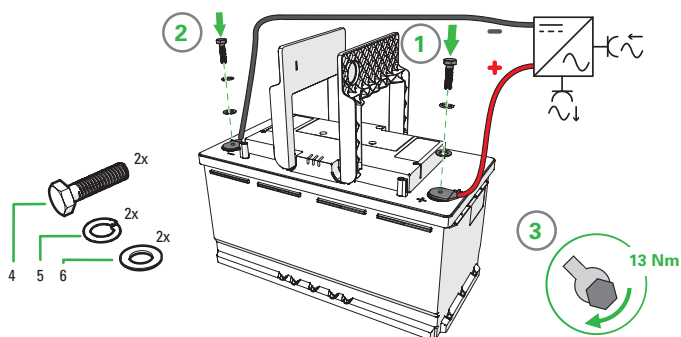

Figure 4.
2. Connect the load or charger to the X2 (+) terminal of the battery. (Figure 4)
3. Connect the X1 (-) terminal of the battery. (Figure 4)